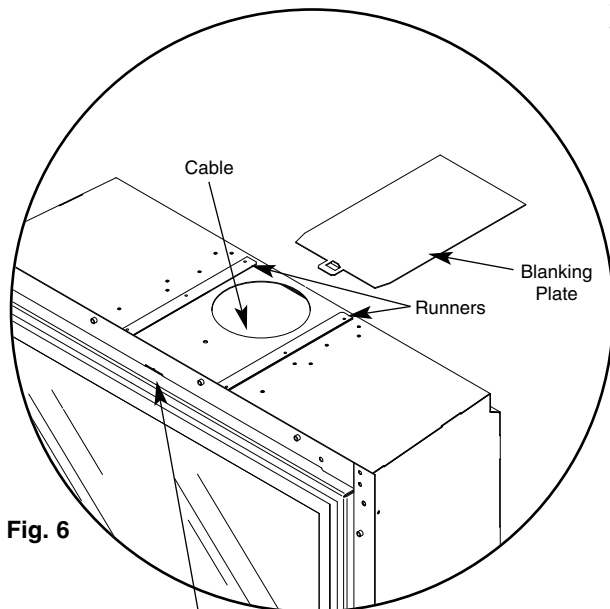

Fig. 6
1. Remove the 5" flue spigot adaptor and cap off the outlet hole with the slide-in cover plate provided (Fig. 6).